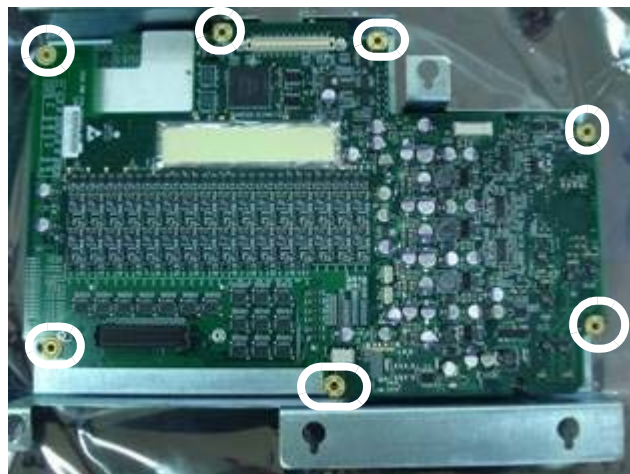

Figure 8-64 Tx-RX combined
7) To remove the TX, remove the 7 fasteners holding TX to RX as shown in Figure 8-64 on page 8-63
6) Remove the Screws fixed in Tx Pwa & separate the RX PWA from TX PWA as shown in Figure 8-64 on page 8-63